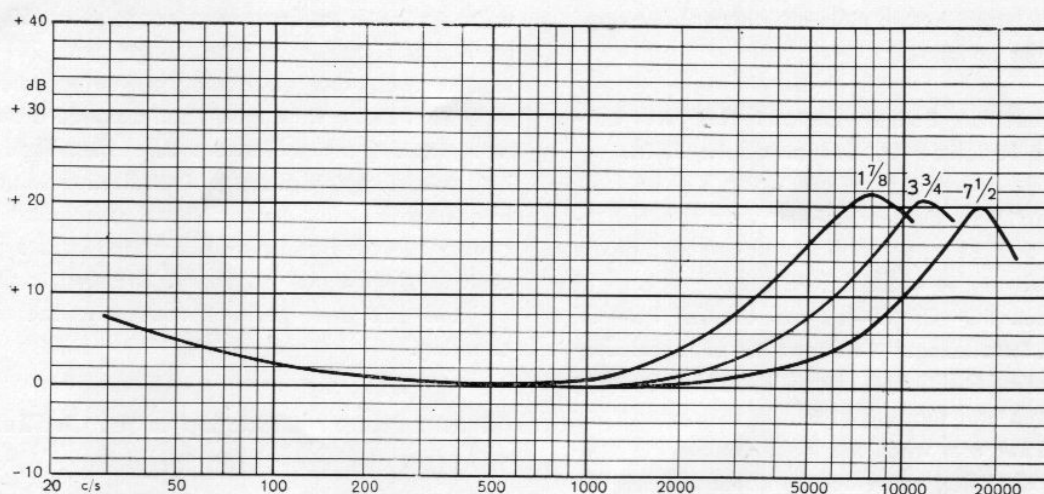
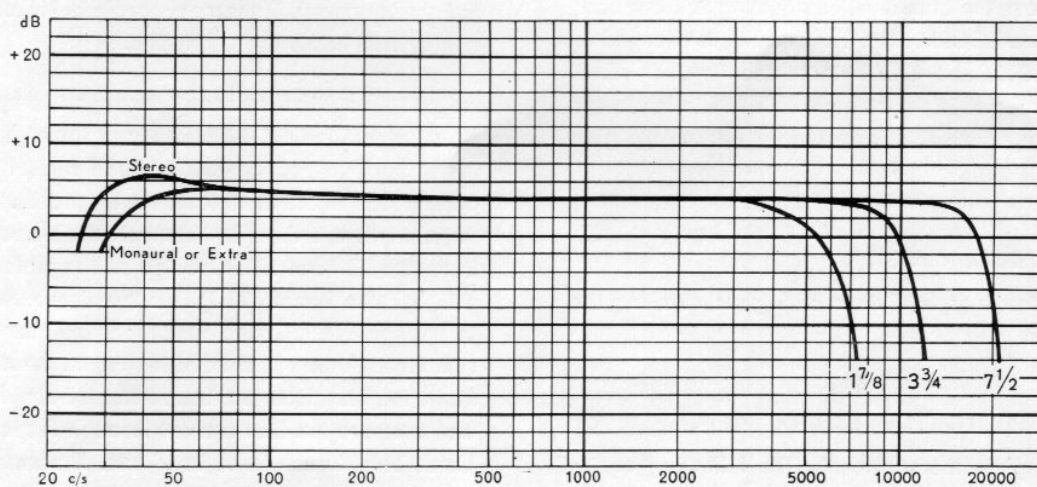

Fig. 3.
Fig. 5.
The decrease in gap width has made it possible to change to 100 μ S playback equalization curve at 3 $\frac{3}{4}$ ips and 250 μ S at 1 $\frac{7}{8}$ ips and yet increase the frequency response. The redesigning of the head together with the two potentiometers R21 and R21B has reduced the Q value of the head and decreased the resonance peak both in playback and recording. The decrease in Q value is wanted in playback because the reduced gap reduces the playback losses. To obtain correct preemphasis in recording position, a resonant circuit has been introduced in the feed back loop in recording position. This resonant circuit (L5—C9) is placed in the cathode of the first triode of ECC83 and is tuned to approx. 18 000 c/s at 7 $\frac{1}{2}$ ips. By means of C9B and C9C this peak is changed to approx. 12 000 c/s and 8 600 c/s at 3 $\frac{3}{4}$ ips and 1 $\frac{7}{8}$ ips respectively. By means of the core in L5 minor corrections at the high frequency response can be made. Fig. 3 and 4 shows the frequency response of the record and playback amplifiers at different speeds. Fig. 5 shows the total frequency response of the Recorder.
2. Adjust the oscillator frequency rejector circuit L1 (27.1). See photographs S.M. Fig. 17 and 18 and schematic S.M. Fig. 5. The V.T.V.M. is attached to point P in schematic S.M. Fig. 20 and should indicate about 5 volts when the circuit is adjusted for minimum.
2. The frequency response curve of the recording amplifier. In the position for recording, the frequency response of the upper track amplifier is changed by changing the speed. Drive the amplifier with a voltage corresponding to 20 dB below maximum recording level. The response curves should be as shown in Fig. 3, curves $7\frac{1}{2}$, $3\frac{3}{4}$ and $1\frac{7}{8}$. The response is checked at all three speeds. The sensitivity at 1000 c/s should be between 100 and 200 mV across the input terminals in back of the recorder, when the voltage across 1000 ohms in series with the head is 90 to 110 mV and the volume is set to max.
The above comparisons apply to the $7\frac{1}{2}$ ips speed since the equalization curves at this speed are unchanged. At $3\frac{3}{4}$ ips and $1\frac{7}{8}$ ips a much greater improvement in noise level is obtained by changing the playback equalization curves. As will be seen from Fig. 3 this improvement has to a certain extent increased the risk of overloading the tape at the higher frequencies. One disadvantage with the Model 5 compared with the Model 3 Stereo is that the Model 5 requires a better adjustment of the tape path, and therefore faults may be caused by improper tape transport. Another difficulty is the erasing in STEREO position. There is a rather critical balance between sufficient erasure and unwanted erasure